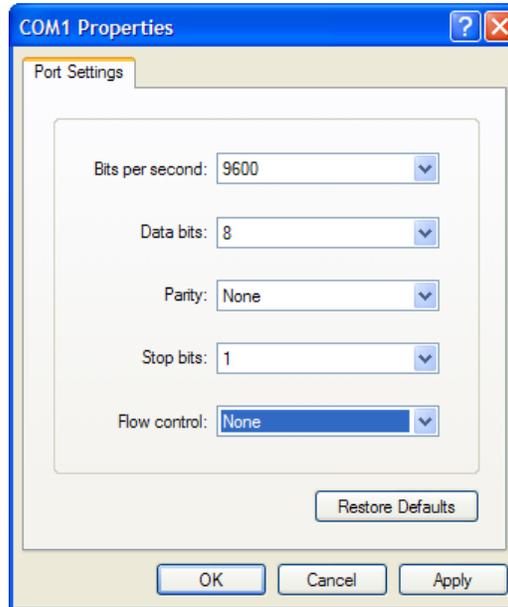

Figure 84. COM1 Properties Window
- 2 In the connect to screen, select COM1. The COM1 Properties window opens, as shown in Figure 84.
- 3 In the COM1 Settings screen, select the parameters shown in Figure 84: